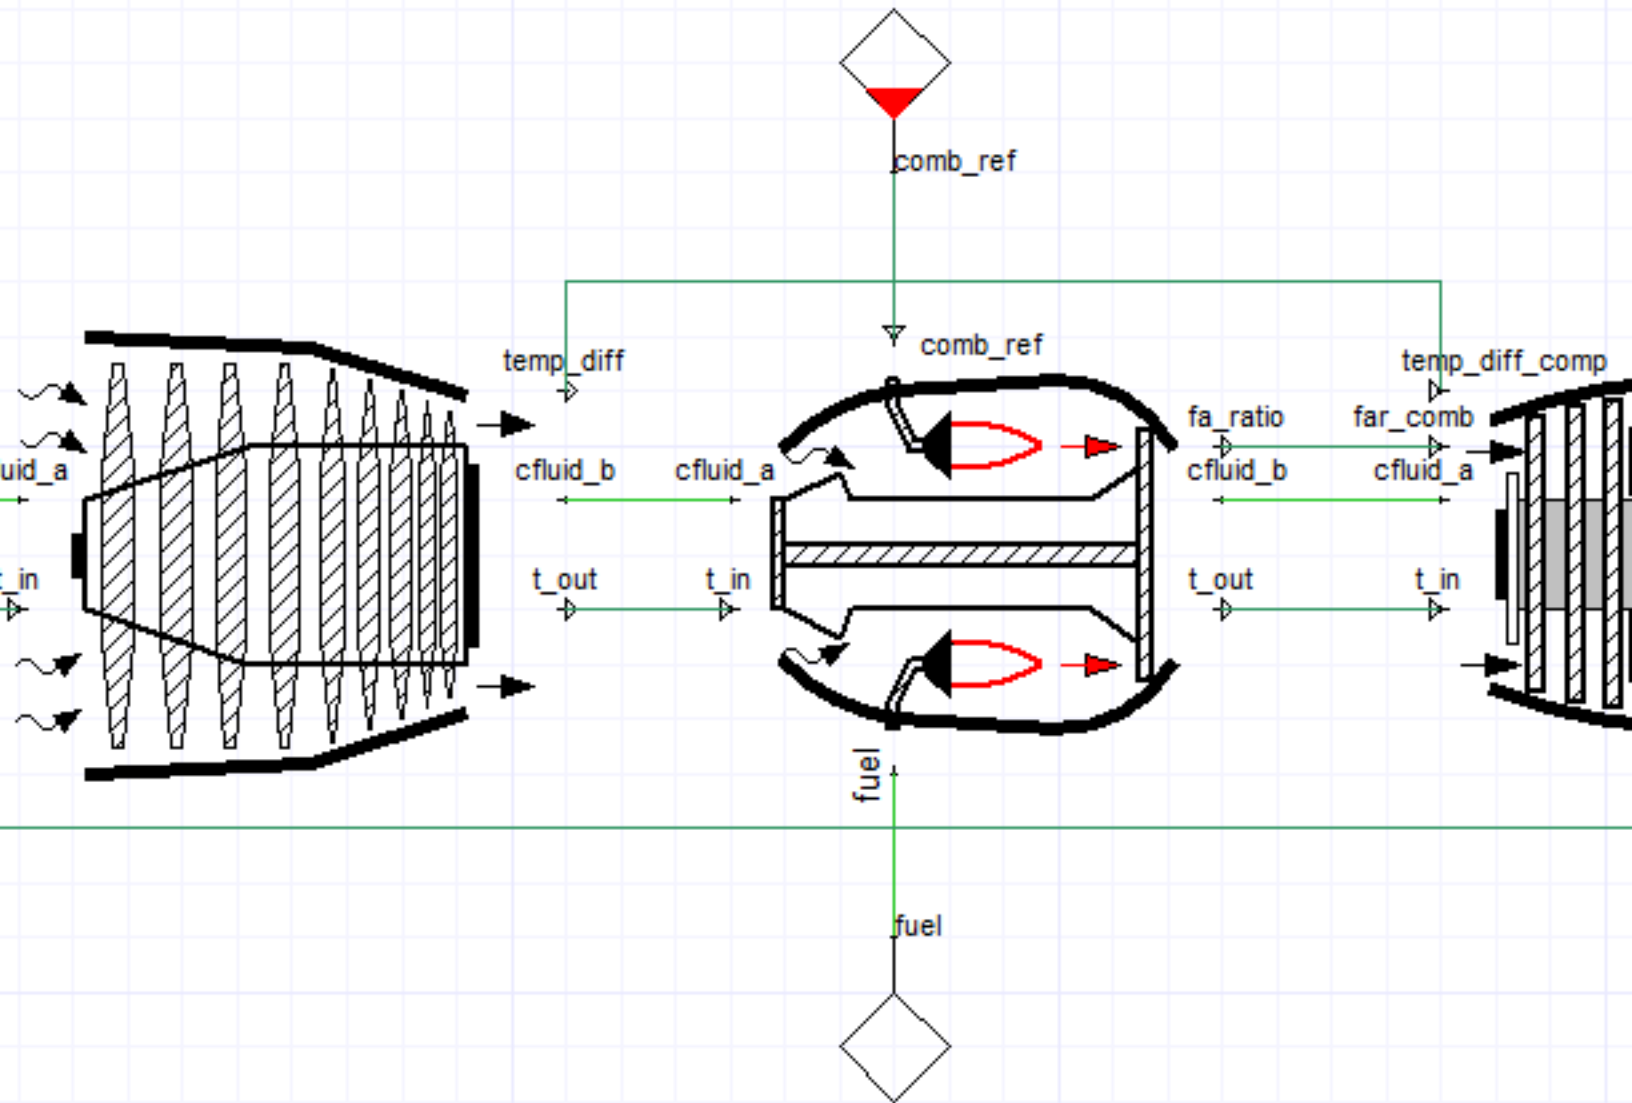

Figure 2. Gas Turbine Engine Sub-System Schematic
- **Gas turbine engine sub-system**, shown in Figure 2. It contains inlet, compressor, combustor, turbine, shaft and nozzle models from Aircraft Electrical VHDL-AMS/Engine library.